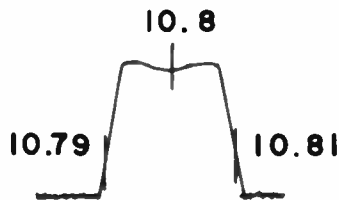

Figure 2
4. Detune T5 for maximum IF output display. See Figure 2.